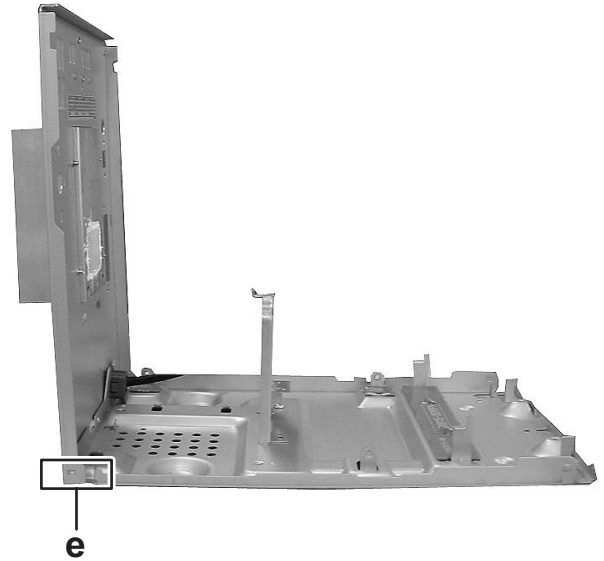

Fig.12
- (2) Disengage the two hooks **e** then remove the rear panel. (See Fig.12)
- (3) Remove the one screw **G** attaching the plate. (See Fig.12)
- (4) Disengage the plate from fixing part **s** and take out the plate. (See Fig.12)